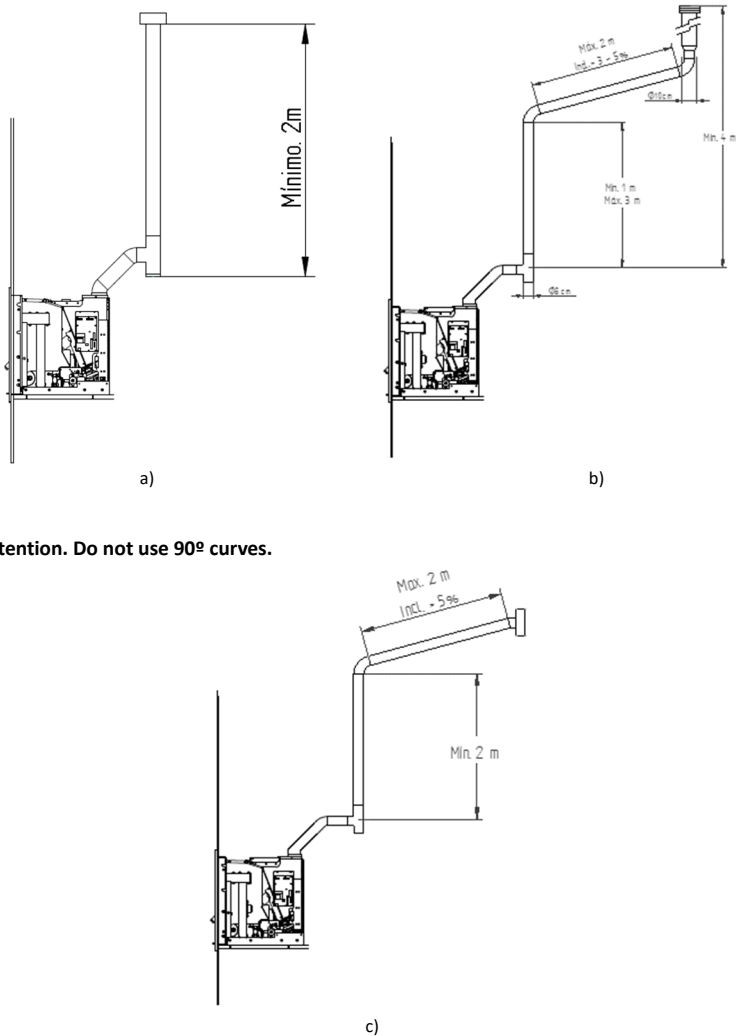

Figure 2 - Examples of installations
- In Figure 2, the basic requirements for installing the insert are shown.
- Provide a "T" for the periodic inspections and the annual maintenance, as shown in figure 2.